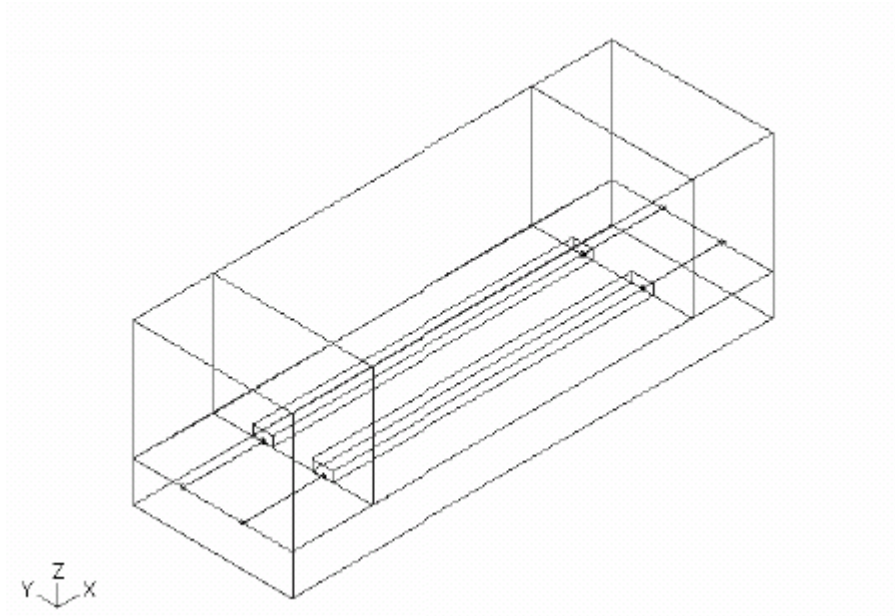

Figure 44 Voltage Source Assignment for a Microstrip Coupled Line Problem
Typically, you use voltage sources to characterize an internal port, or to characterize coupled lines, as in the example shown in Figure 44.
This section gives an example for setting up a voltage source for a simple microstrip coupled line structure such as the one in Figure 44.
In the example in Figure 44, the extensions are exaggerated to make the voltage source lines more visible. Typically, the extensions will be very short.
- 8 Follow steps 5 through 7 to define the remaining three voltage sources as they appear in Figure 44 on page 113. Click **Apply** for each one, then click **Done** when they all are defined to leave the dialog box.